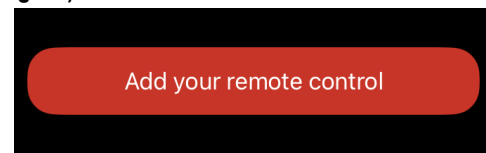

Fig.83
9. Select "Add your remote control" on the pop up screen (Fig. 83).